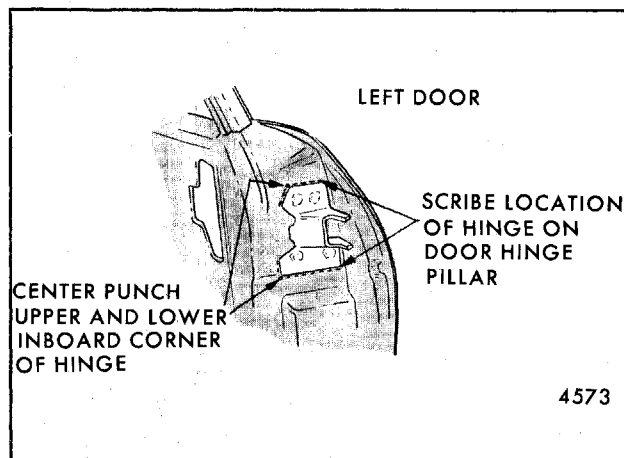

Fig. 5-92-Locating Hinge on Door Hinge Pillar - "X" Styles
3. Center punch and scribe location of hinge on door hinge pillar (refer to Fig. 5-92).